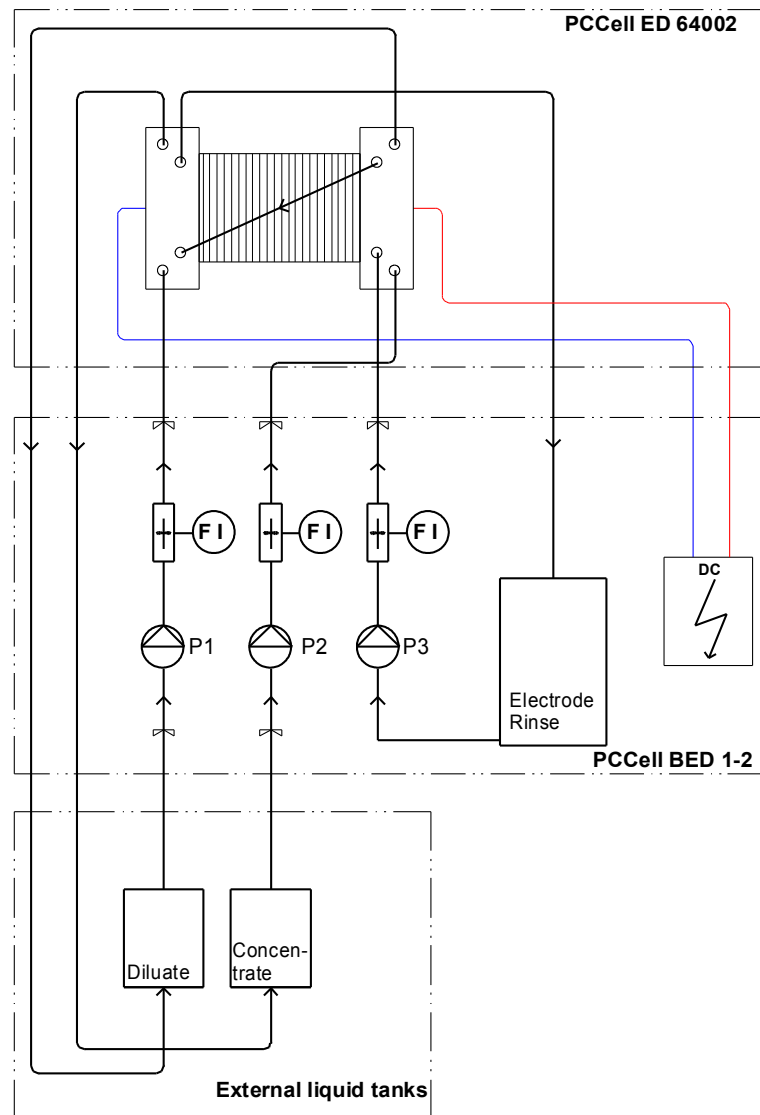

Fig. 2: A complete ED setup: it consists of the stack (upper dotted rectangle), the ED pump unit (middle) and the external electrolyte containers (below).
The bench electro dialysis pump units PCCell BED 1-2 (PCCell BED 1-3) provides 3 (4) Electrolytic circuits: 2 (3) external circuits and one internal circuit. All circuits consist of a pump with flow- through meters (see the left two circuits in Fig. 2). The internal circuit consist of an additional 9 l electrolyte container, which is built into the pump unit (see the right circuit in Fig. 2). They are designed to work in combination with an ED cell to set up a variety of experiments like desalination.
A complete ED System is set up by this ED Cell in combination with this ED pump unit and the external solvent tanks (Fig. 2).